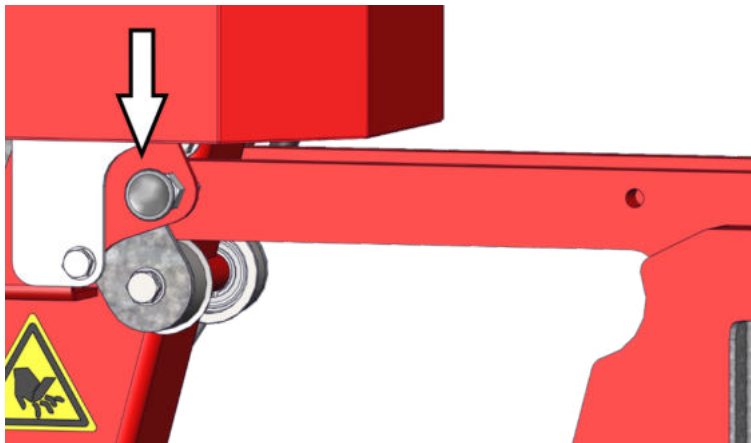

Figure 4.5 Extending counterweight
1. Release the counterweight by twisting or pulling the lip of the locking pin (see *Figure 4.5*).